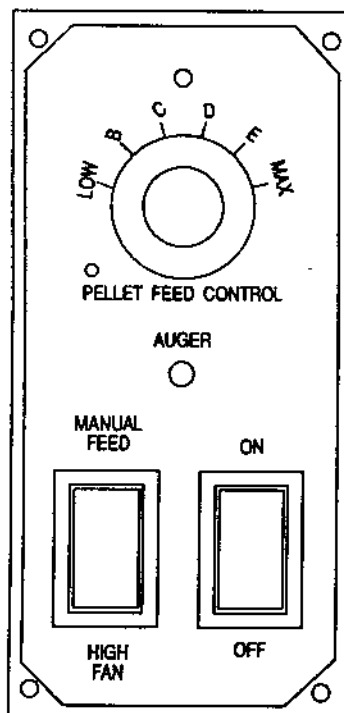

Figure 11
- c. Fill burn pot by hand or by pressing "MANUAL FEED" switch on control panel (see figure 11) fill to about half full. Add approved fire starter (see section 3.92j), light and close door. Keep door tightly closed during operation.
(see figure 11)
b. Oiling — Blower manufacturers suggest oiling annually. See figure 11 for lubrication points. Use SAE 20W motor oil. Limit to one or two drops.